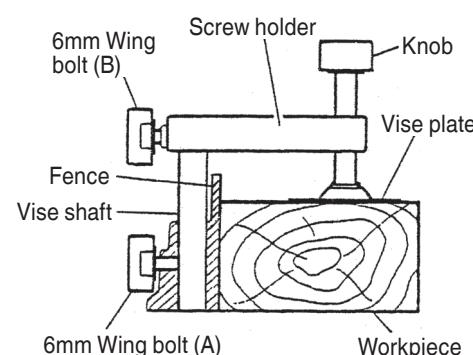

Fig. 21
- (1) The vise assembly can be mounted on either the left fence (Fence (B)) or the right fence (Fence (A)) by loosening the 6mm wing bolt (A).
- (2) The screw holder can be raised or lowered according to the height of the workpiece by loosening the 6mm wing bolt (B). After the adjustment, firmly tighten the 6mm wing bolt (B) and fix the screw holder.
- (3) Turn the upper knob and securely fix the workpiece in position (Fig. 21).